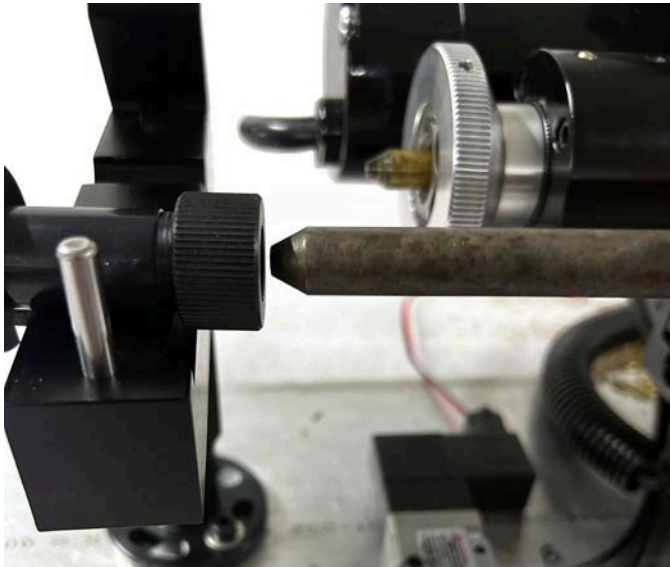

FIGURE 69
D. Place the back end into the bar feeder tube (no need to remove the end cap from the bar feeder tube). Insert the extension pusher into the bar feeder tube leaving enough of it protruding from the end cap to grip (see Figures 69 and 70).